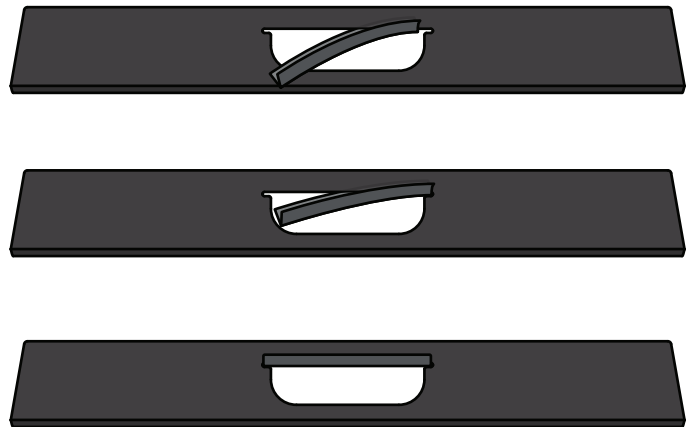

FIG. 1a
- 1 Insert the Handle Gasket (H1) into the Handle's opening (open, ribbed-side facing upwards) and push it onto the Stand Body's handle (F) so that it is fully covering the top edge [FIG. 1a].